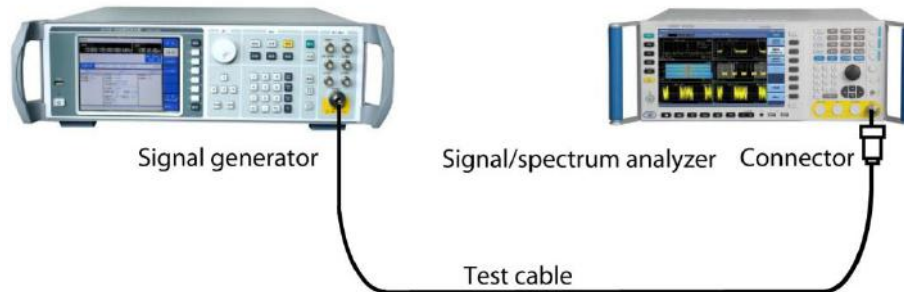

Fig 4.65 Connection settings of adjacent channel power measurement
**Step 2. Connect the radio frequency output port of the signal source to that of the analyzer. As shown in Fig. 4.65:**